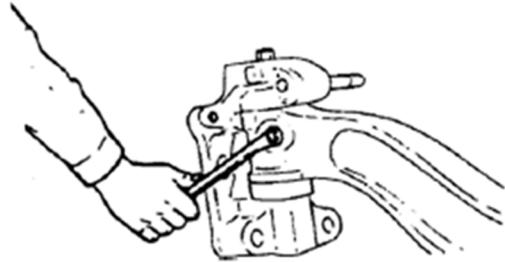

Figure 3-13.
- 3) Loosening the nut positioning the swivel axis with the axle beam until the outside of the bolt nut is equal to the outside of the axle beam (Figure 3-13).